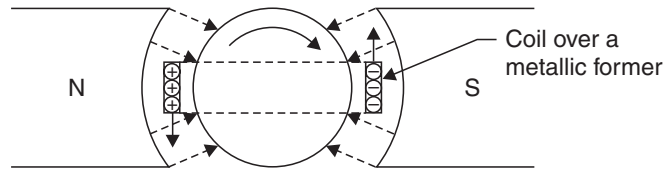

Fig. 6. Eddy current damping with permanent magnet.
- Another form of providing damping is used in the *moving coil instruments* using permanent magnet. The moving coil is mounted over a metallic former. When the coil is deflected eddy e.m.f.'s are induced in the two sides of the former, causing eddy forces as shown in Fig. 6.